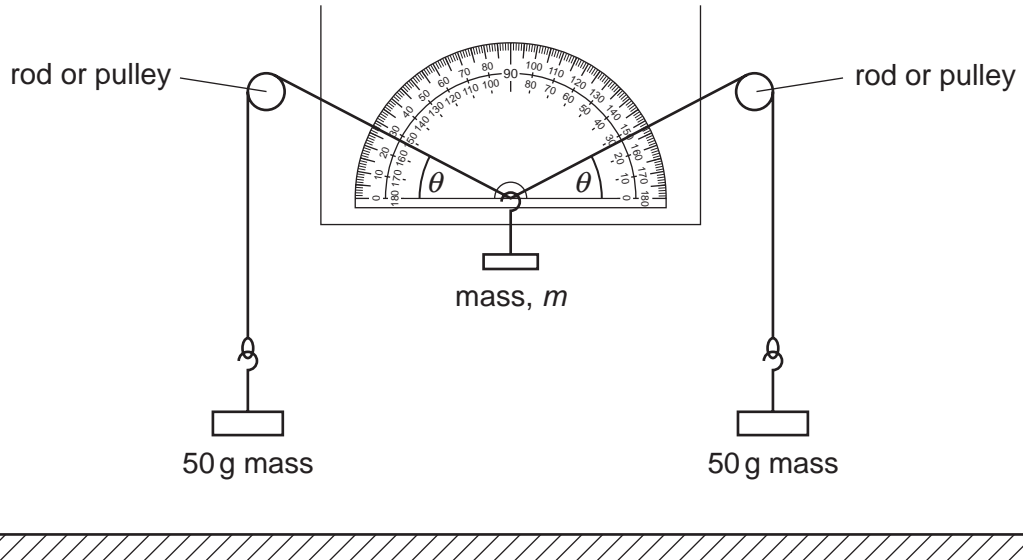

Fig. 2.1
- (ii) 2 stands and clamps to hold rods or pulleys (see Fig. 2.1)
The candidate will be required to assemble the apparatus as shown in Fig. 2.1.
- (vi) if the 10 g mass is not a hanger, some means of suspending masses from the middle of the arrangement (see Fig. 2.1)